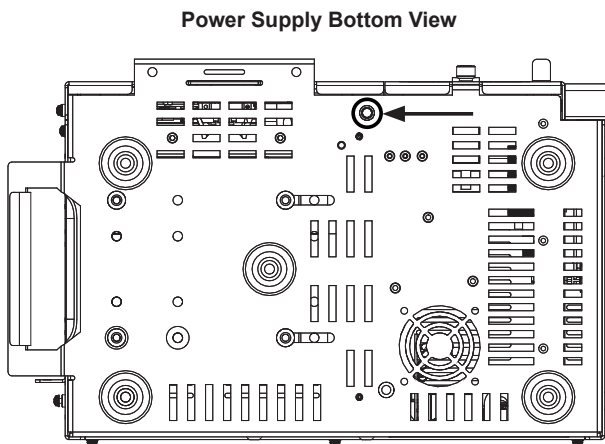

Fig. 2-2, Security Screw Mounting Location
1. Locate the security screw mounting location on the XM3-HP power supply (see Fig. 2-2).